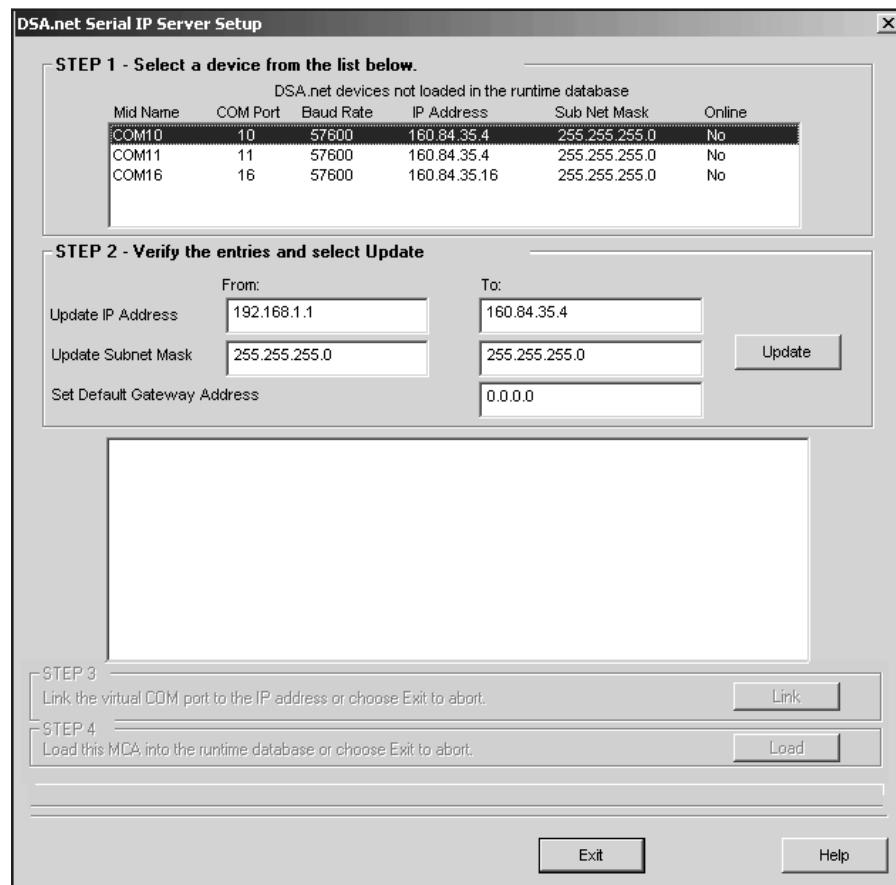

Figure 10 Parameters Loaded
1. To configure a device, double click on device's entry in the list. The Step 2 data fields will be populated (Figure 10).